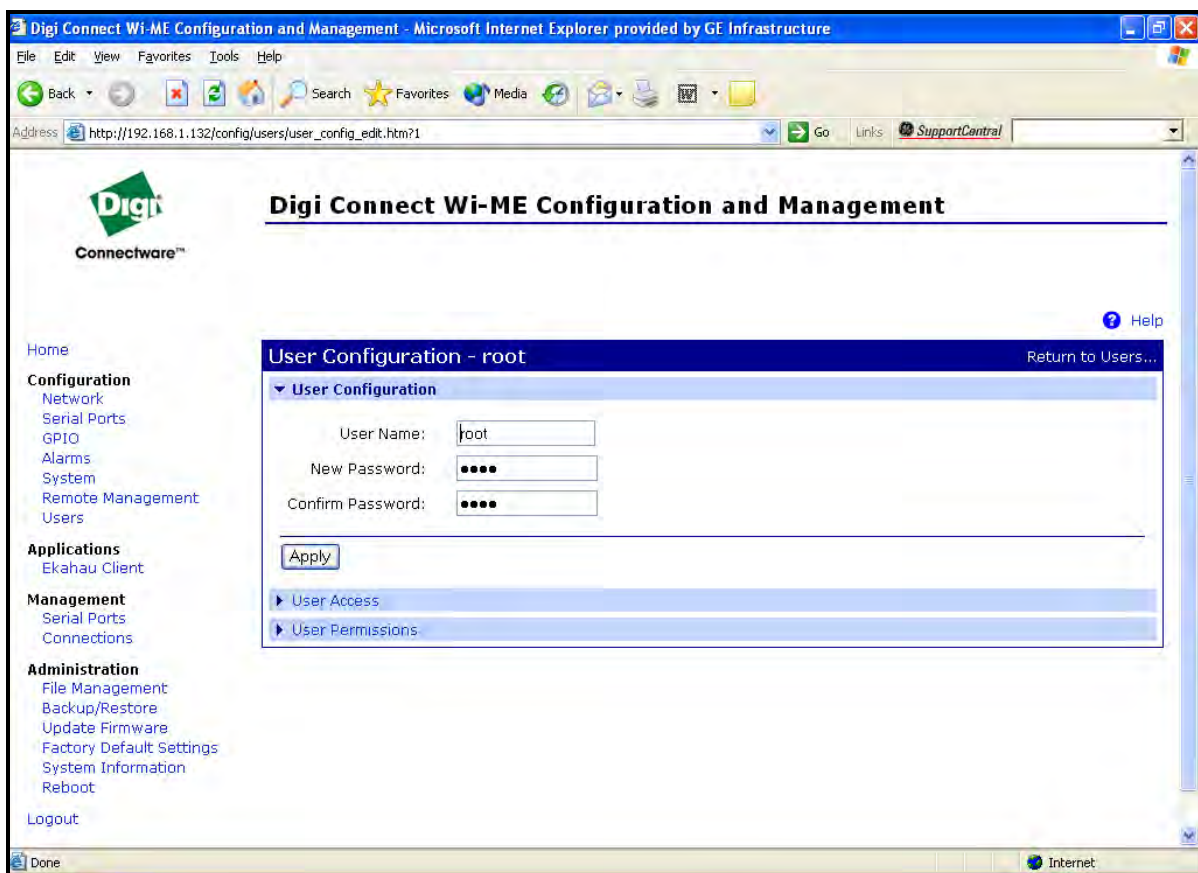

Figure 35: Changing the User Name and/or Password
5. Click on **New....** Figure 35 on page 50 appears.